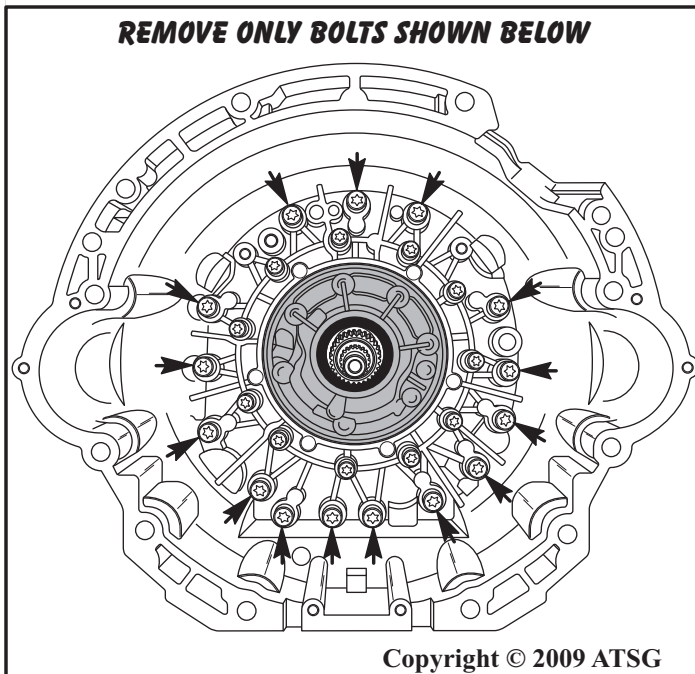

Figure 49
26. Remove the remaining 15 converter housing to case bolts from inside the converter housing, as shown in Figure 49 and 50, using 40 Torx bit.
Note: Do not remove the circle of 30 Torx bolts shown in Figure 49. This is easier done in component rebuild.